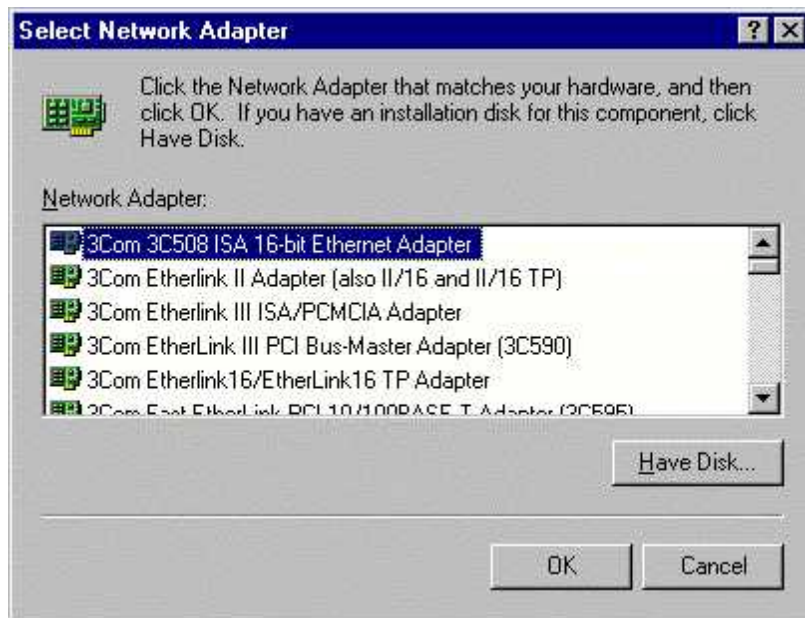

Fig. 8-5 Select Network Adapter: Network adapter
- In the "Select Network Adapter" dialog box: (Fig. 8-5), select "Have Disk" to install the drivers from your hard disk drive.